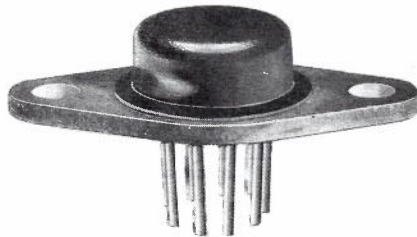

FIG. 44. TO 3 STYLE PACKAGE.
- **OTHER STYLES.** There are several styles other than the preceding types, but they are not as common. Fig. 44 shows one of these packages. It is similar to the TO 3 package used for transistors, and commonly has nine leads.